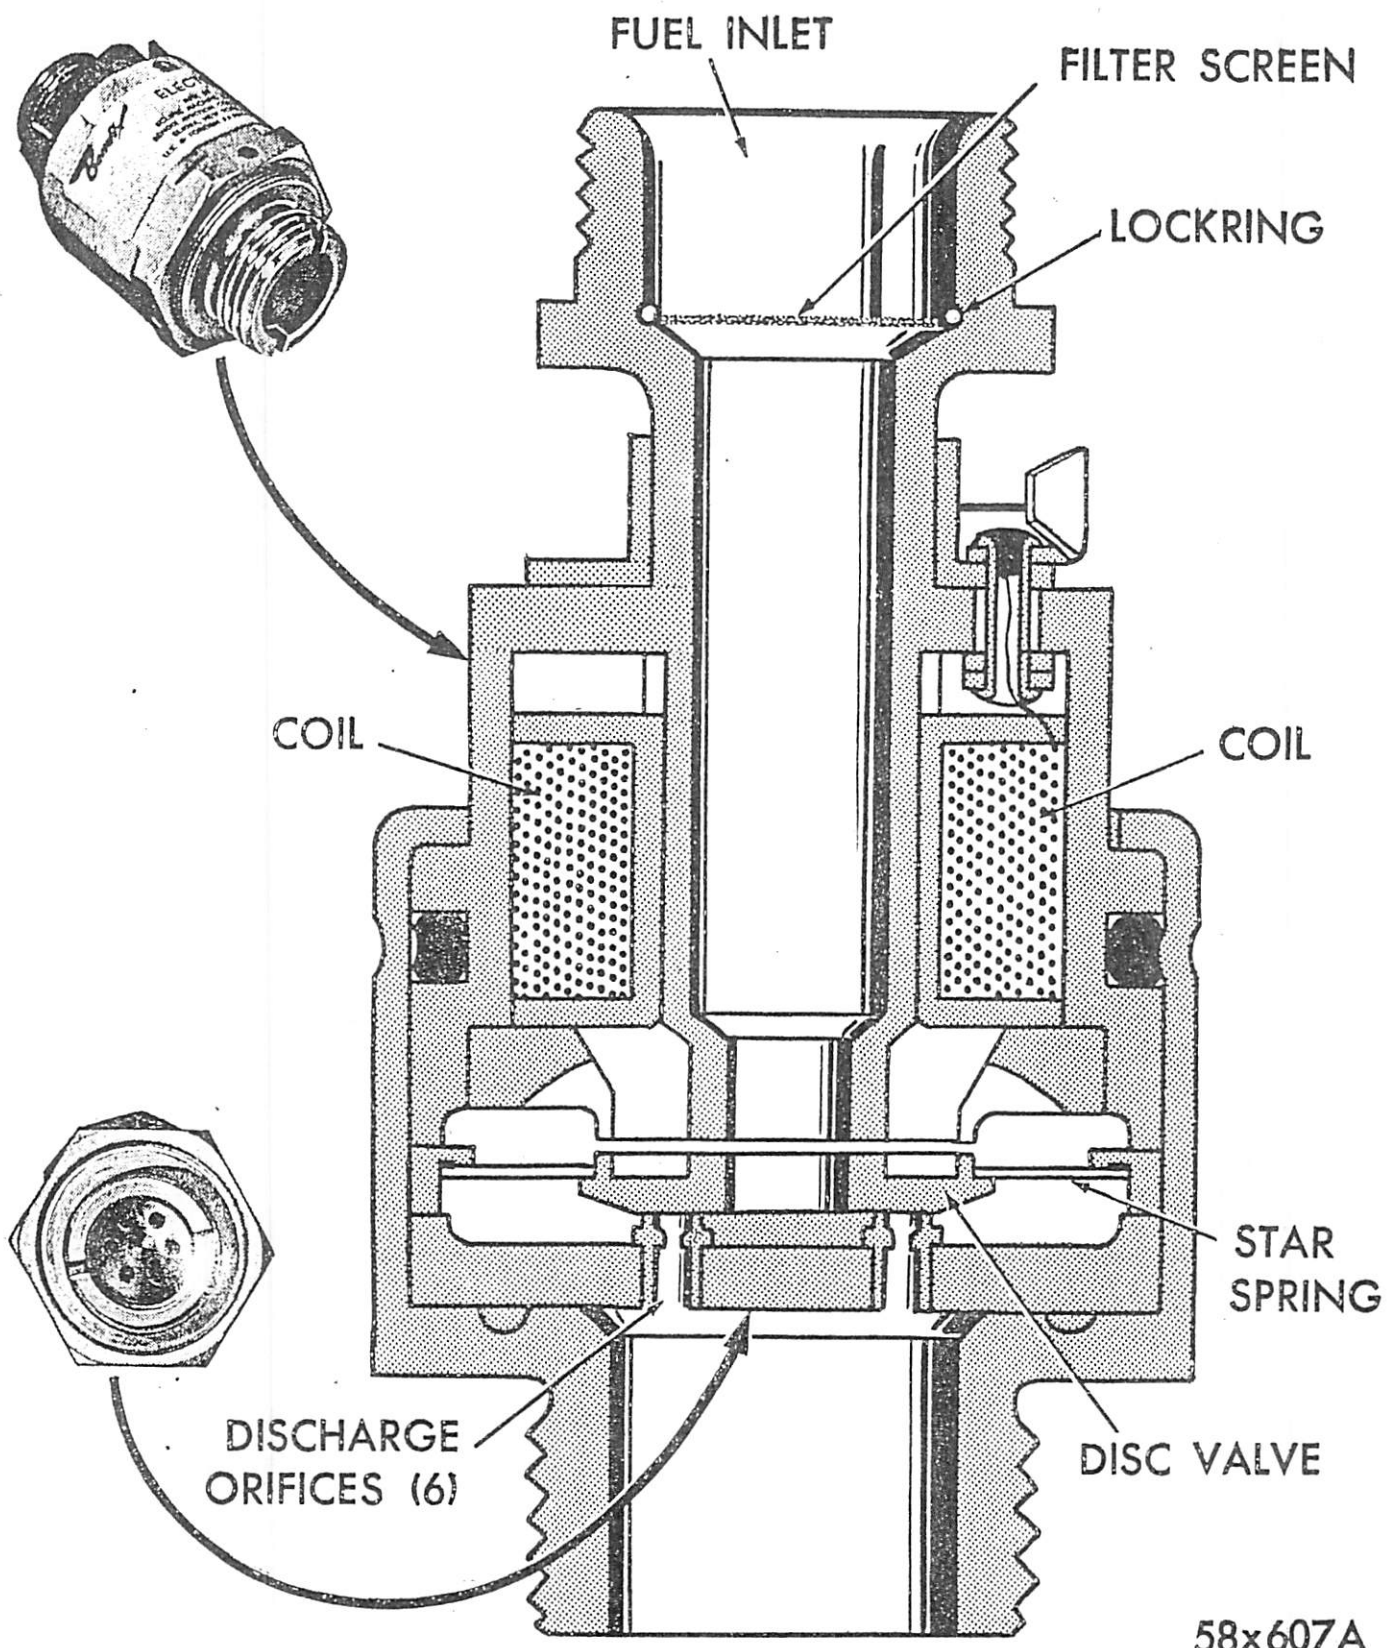

Fig. 10—Injector Assembly
The triggering selector shown in Figure 3, is driven by a flexible shaft, connected to the ignition distributor, and is a combination timing and current distributing device. The triggering selector transmits an electrical signal to the electronic modulator, which actuates the modulator. The output is then returned to the selector portion of the triggering selector for distribution to the correct injector. The electrical impulse to the injector opens a solenoid controlled valve within the injector (see Figure 10) for a very minute period of time, and, at this instant, fuel is injected into the intake manifold. (The time period that the valve is open for injection, is measured in milliseconds.)
The injectors are located in ports on the intake manifold, and are inclined laterally so as to direct the fuel at the intake port of each cylinder. The injector consists of a solenoid, a flat disc valve, a return spring and a metered orifice plate, as shown in Figure 10. The disc valve is located between the solenoid and the orifice plate. A star-shaped flat spring holds the disc valve against the orifice plate when the injector is closed. Thus, the fuel is cut off to the metered orifices by the disc valve. When the solenoid is energized by current from the selector, the disc valve (made of a magnetic material) is attracted to the magnet of the solenoid against the force of the flat spring. This allows fuel to flow through the metered orifices (6) and discharges it into the intake port area of the intake valve